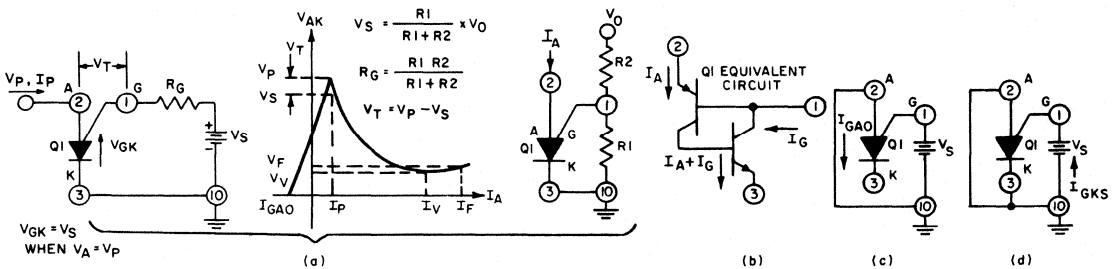

Fig. 22 — General anode characteristics for Q1 (PUT).
* V_T = V_P - V_S (Fig. 22)
The programmable unijunction transistor is essentially an anode-gate SCR. The volt-ampere characteristic of the device is shown in Fig. 22. When an equivalent Thevenin source (V_S , R_G), as shown in Fig. 22, is applied to the gate terminal the device will be "off" if the anode-voltage is negative with respect to the gate voltage. Under this condition, any current flow is exclusively leakage current. When the anode voltage be-